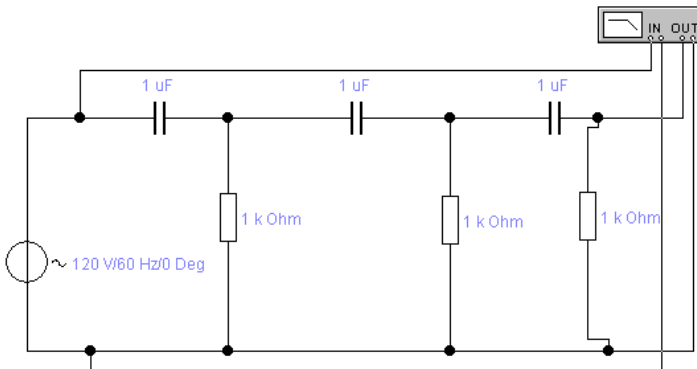

Figure 8.7 – Three-Way High-Frequency Filter
- 1 Draw a pattern of Fig. 8.7.